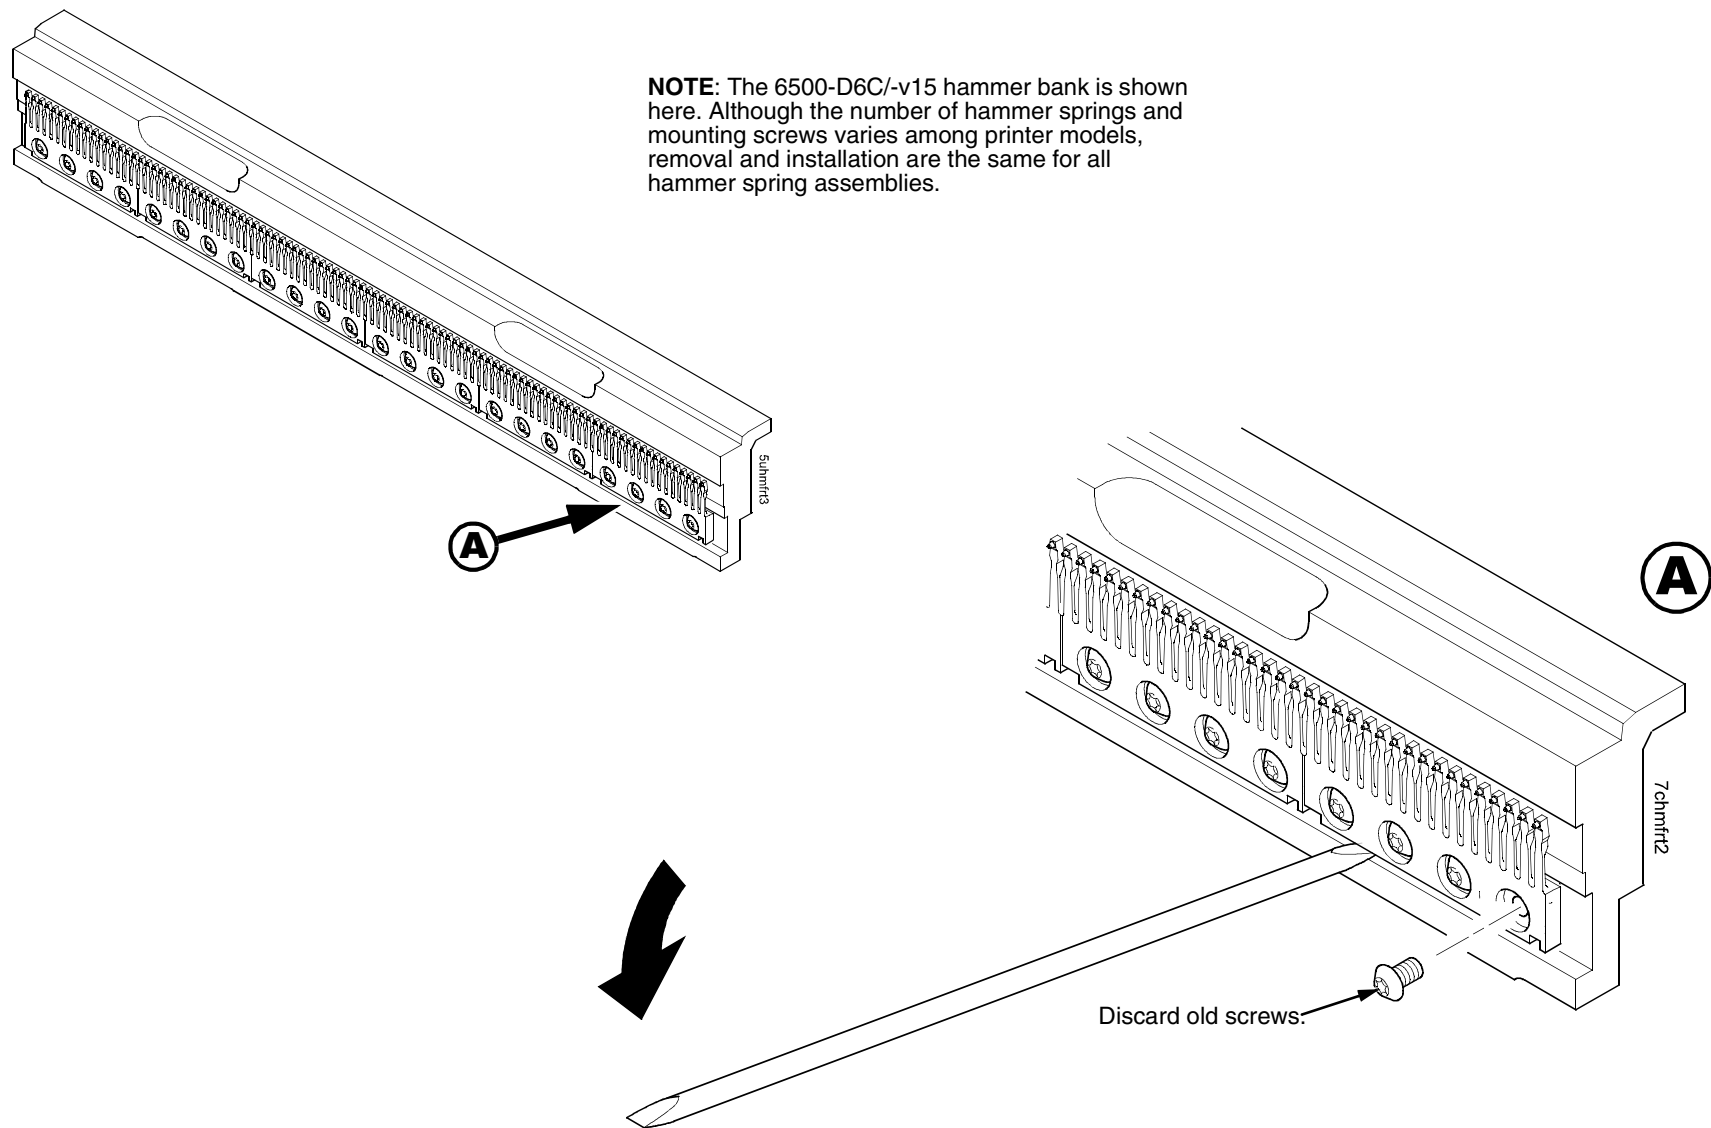

Figure 16. This figure shows how to remove a hammer spring assembly from the hammer bank.
5. Remove the mounting screws from the old hammer spring assembly. (See Figure 16, page 351.)
6. Handling the hammer spring assembly by the mounting base only, gently pry the old hammer spring assembly off its mounting pins. (See Figure 16, page 351.)